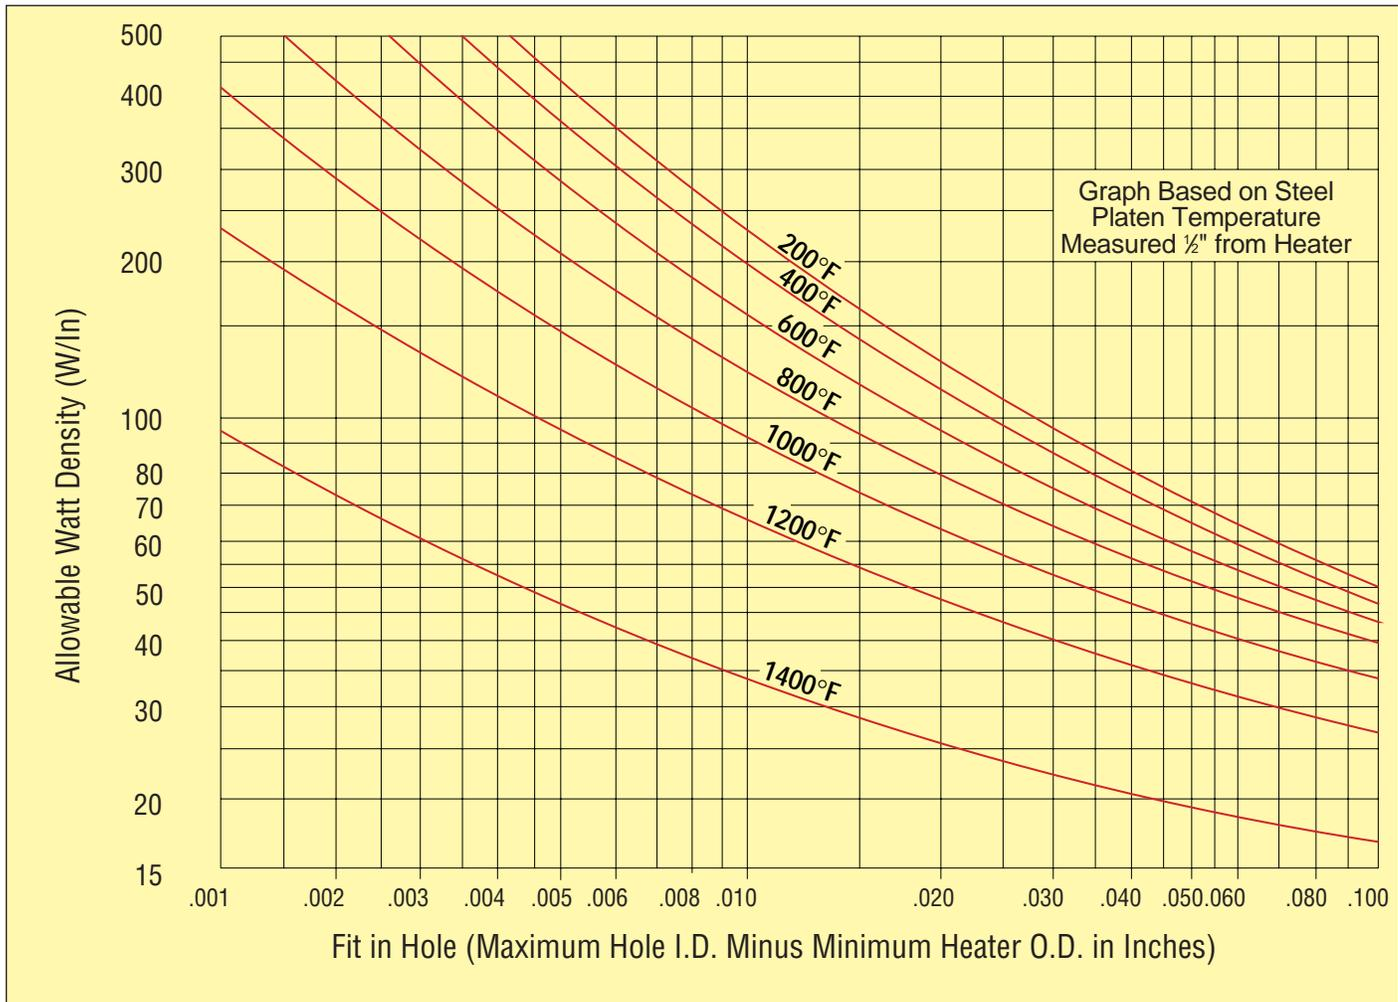

FIGURE D-1 Allowable Watt density vs platen temperature for various fits using OMEGALUX® Type CIR cartridge elements.
Application at medium Watt densities. Figure D-1 (page D-6) shows maximum allowable Watt density for various fits and operating temperatures. The vast majority of applications do not require maximum watt/in², however. Use a Watt density only as high as you need. Take advantage of the safety margin provided by using ratings less than the maximum allowed. Select space heaters for most even heat pattern rather than for the highest possible wattage per heater.
After the wattage for each heater has been established, the Watt density and fit must be calculated. Then, use Fig. D-1 on page D-6 to be sure that the Watt density is within allowable limits. For example, a ½" x 12" OMEGALUX CIR series rated 1000 Watts has a Watt density of 55/in². If it were used in a part with an operating temperature of 1000°F with a fit of 0.01", the allowable Watt density from the graph would be 90W/in², thus, the actual Watt density of 55w/in² is well below the maximum allowed. A substantial safety margin would exist and high reliability can be expected.
The maximum permissible sheath watt densities for alloy sheath cartridge heaters at a given desired temperature on the metal are given by Figure D-1. This curve gives watt densities for various fits using CIR cartridge elements. Figure D-2 is useful for using C series elements.
Using the maximum allowable Watt density graphs: FIGURE D-1
3. Operation in square grooves. Round series CIR cartridge heaters may be installed in square or V-shaped grooves if this proves convenient. The inside of the groove should be treated to improve its emissivity (by oxidizing or anodizing). Allowable W/in² can be estimated by using the .050 fit line in Figure D-1 on page D-6, providing that the square is approximately the same width as the nominal diameter of the heater.